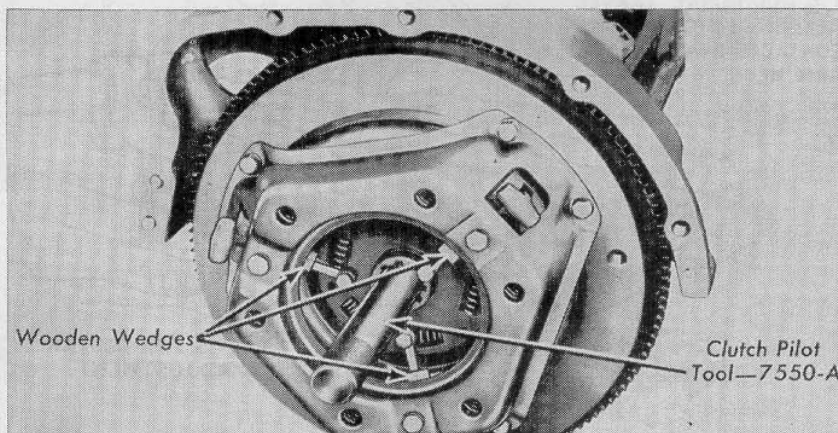

Fig. FO51—Using wooden wedges and dummy shaft to facilitate R&R of clutch. Clutch installation on models 2N-8N-9N.
64A. With clutch assembly accessible, mark clutch cover and flywheel to assure correct alignment when re-installing. Force clutch release levers inward and insert wooden wedges between levers and cover as shown in Fig. FO51. Unscrew cap screws holding clutch assembly to flywheel and remove clutch cover and lined disc. A short, dummy clutch shaft or aligning tool is used as shown when reinstalling clutch. Renew release and pilot bearings if necessary. Install thick side of driven disc hub away from flywheel. When clutch cover is overhauled, reset release levers to the dimensions given in Long clutch table in Standard Units manual.
66. With clutch assembly accessible, mark clutch cover and flywheel to assure correct balance when re-installing. Force clutch release levers inward and insert wooden wedges between levers and cover as shown in Fig. FO51. Unscrew cap screws holding clutch to flywheel and remove clutch cover and lined plate. Renew release and pilot bearings if necessary. Before reinstalling clutch to flywheel lubricate pilot bearing with short fiber high melting point type grease. A short dummy clutch shaft or aligning tool is used as shown when reinstalling clutch. Install thick side of lined plate hub away from flywheel. When clutch cover is overhauled check lever settings as for Long 9C clutches as outlined in Standard Units Manual. For renewal of clutch shaft refer to Main Drive Gear in Transmission section.